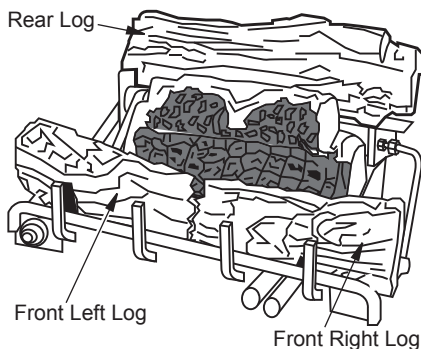

Figure 25 - Installing Logs
3. Place front left and right logs and rear log as shown in Figure 25.